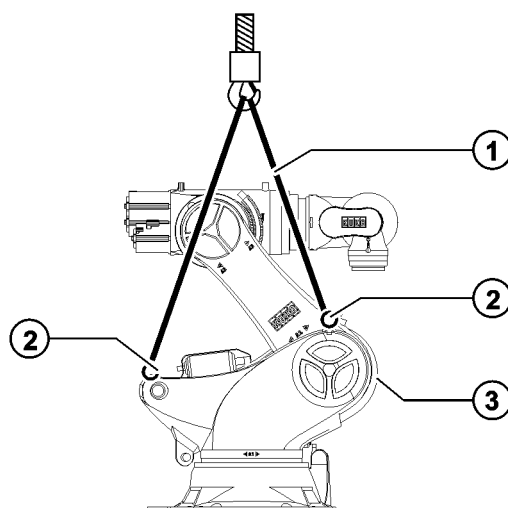

Fig. 7-5: Lifting tackle
The robot can also be transported using lifting tackle (>>> Fig. 7-5 ) (1). The robot must be in the transport position. The lifting tackle is attached to 3 eye-bolts (2) that are permanently screwed into the rotating column (3). All ropes must be long enough and must be routed in such a way that the robot is not damaged. Installed tools and pieces of equipment can cause undesirable shifts in the center of gravity.